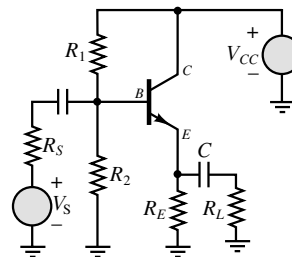

Figure P10.32
- 10.32** The circuit shown in Figure P10.32 is a common-collector (also called an emitter follower) amplifier stage implemented with an *n*pn silicon transistor. Determine V_{CEQ} at the DC operating or Q point.